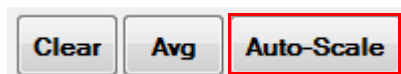

Figure 2-37 Autoscale button on the graphical interface
- 1 Select **Auto-Scale** on the bottom right of the graphical interface as shown in Figure 2-37.